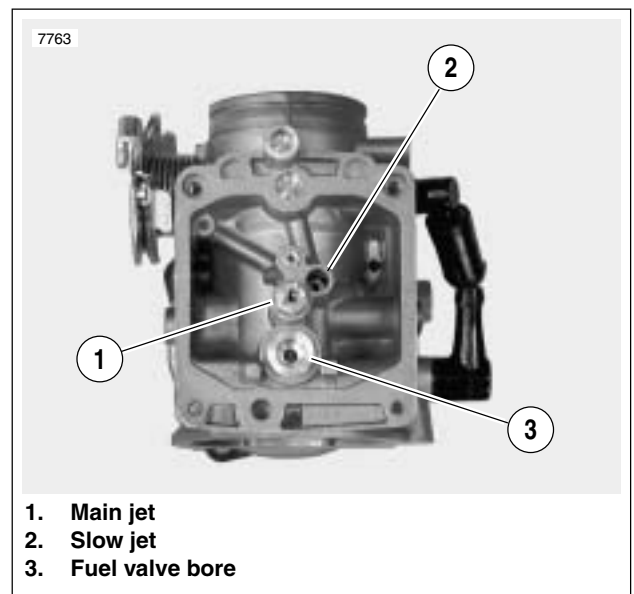

Figure 4-14. Carburetor Housing
4. See Figure 4-14. Using slot at top, turn main jet (1) with flat tip screwdriver to unthread from needle jet holder. If necessary, hold hex on needle jet holder with a 5/16 inch wrench to prevent rotation.
7. See Figure 4-14. Insert thin bladed flat tip screwdriver into slow jet bore, and using slot at top of slow jet (2), unthread to remove.
6. See Figure 4-14. Place float into cavity of carburetor inserting fuel valve into bore between pedestals.